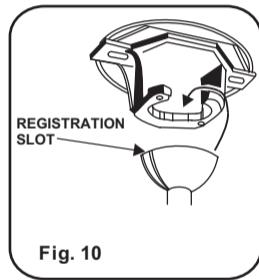

Fig. 10
Step 7. Lift the Motor Assembly and place the Hanger Ball into the Hanger Bracket. Rotate the Motor Assembly as needed until the check groove from the Hanger Ball rests firmly over the registration tab from the Hanger Bracket. Motor Assembly should not rotate if this is done correctly. (Fig. 10)